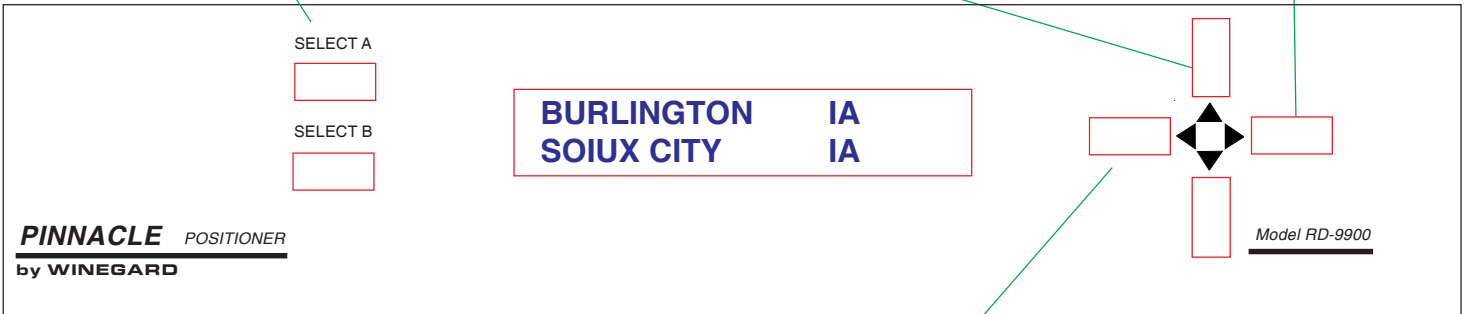

Figure 3
6. Press **[UP/DOWN]** arrow buttons to scroll cities, Figure 3. The cities are listed alphabetically by state. Pressing the **[RIGHT]** arrow button will scroll the list to the first entry of the next state. Pressing the **[LEFT]** arrow button will scroll the list to the last entry of the previous state.
7. Press **[SELECT A or B]** once you have scrolled to the closest city to your location, Figure 3.